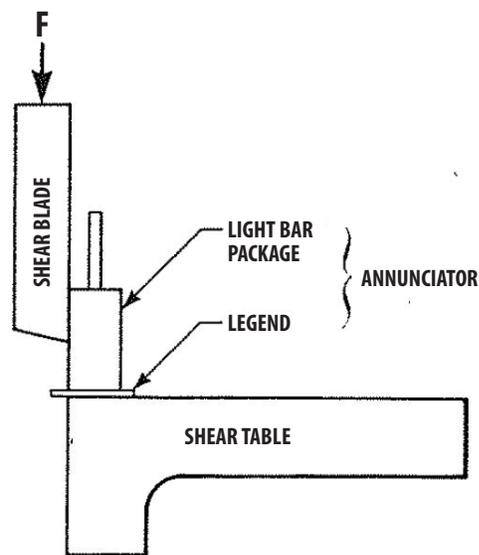

Figure 6. Shearing Legend to Size
3. Trim the legend to size with a pair of scissors or a small shear. (Figure 6)